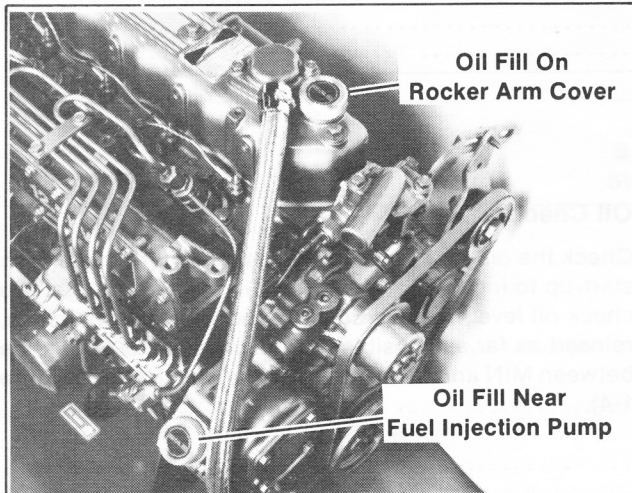

Figure 1-5. Oil Fill Locations
2. Remove oil fill cap. One is located on the rocker arm cover and one is located near the fuel injection pump. See Figure 1-5.